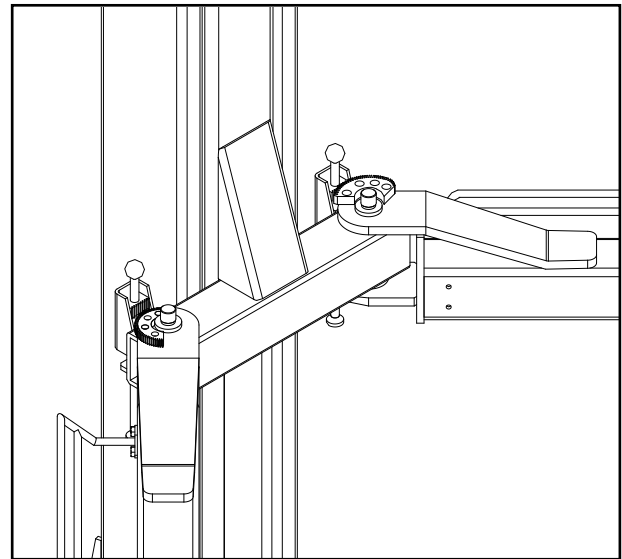

Fig. 35
- ◆ Mount the arms into the carriage supports and insert the dowel pins into the support holes as shown in Fig. 35. Notice the entry of both arms is the same with the entry of the vehicle.